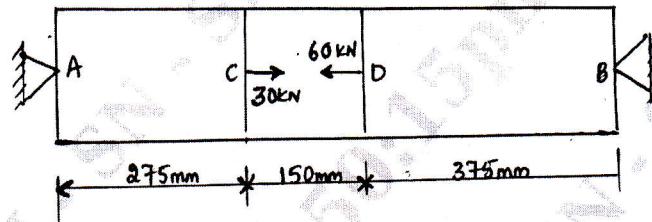

Fig.Q2(c)
c. A bar of 800 mm length is attached rigidly at A and B as shown in Fig.Q2(c). Forces of 30 kN and 60 kN act as shown on the bar. If $E = 200$ GPa, determine the reactions at the two ends. If the bar diameter is 25 mm, find the stresses and change in length of each portion.